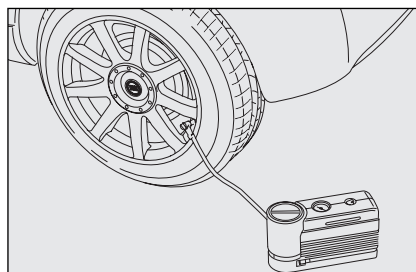
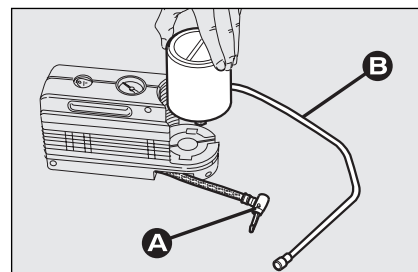

fig. 7
fig. 8
The compressor can be also used just for restoring pressure. Release cylinder connection **A**-fig. 8 and connect it directly to the tyre valve **fig. 7**; in this way the cylinder is not connected to compressor and the sealing fluid will not flow into the tyre.
- ☐ disconnect connection **A**-fig. 8;